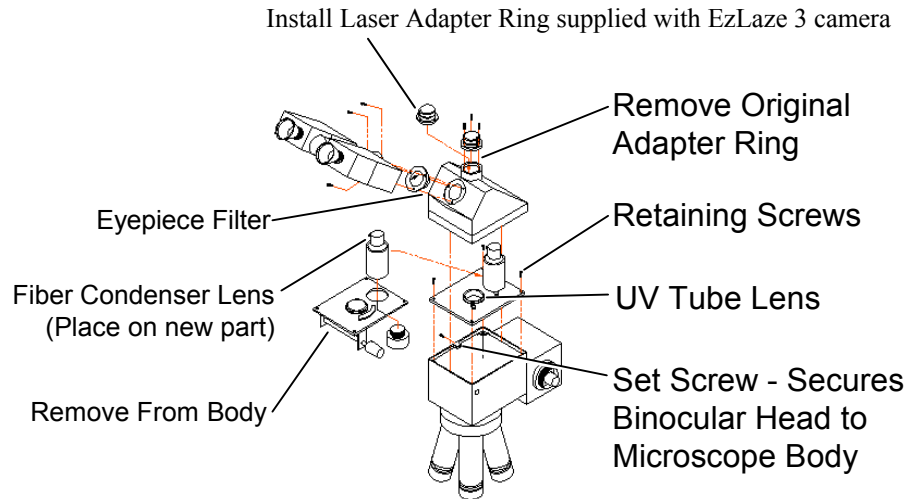

Figure 3-1: FS60 Microscope modifications
1. Remove the eyepiece assembly and the three screws that secure the eyepiece to the body of the microscope. (See Figure 3-1.)